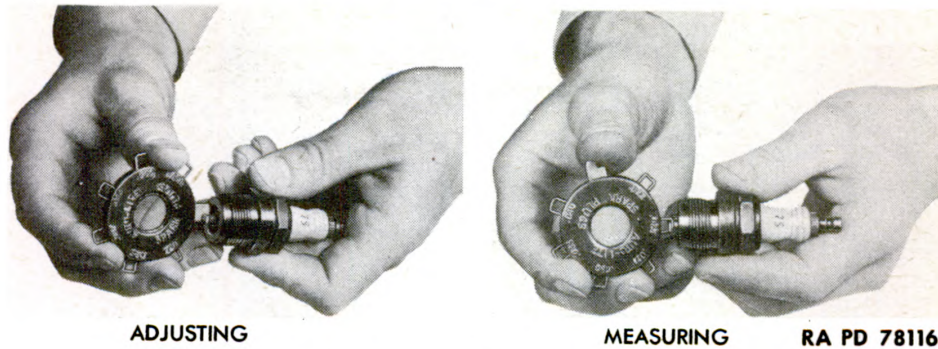

Figure 60 - Spark Plug Gap Adjustment
(4) Place rotor in position over distributor shaft. Distributor shaft is cut so that it is possible to put rotor on shaft in one position only. Check position rotor is to be inserted to avoid breaking.
(5) Place distributor cap on distributor, and secure in position with the two distributor cap hold-down clips.
a. **Description.** The spark plugs (fig. 60) are of the commercial automotive type with electrode gap adjustments made by bending the side electrode. Each plug consists of a metal shell within which is fixed an insulator with a central electrode stem. The metal shell is threaded to screw into the engine cylinder head. The central electrode stem is threaded at the upper part of the insulator to provide means of attaching the high-tension lead from the distributor. Champion No. 1 common, or equivalent spark plugs are used. These plugs are a cold-type, and under no circumstances should they be replaced with hot-type plugs.
(4) Check and adjust spark plug electrode gap using 0.025-inch feeler on gage (fig. 60). Bend outside electrode to obtain correct gap. Never bend center electrode.
(5) Test each spark plug on a spark plug tester to assure proper performance.
e. Removal. Unsnap high-tension lead from the spark plug terminal, and using a spark plug wrench (fig. 60), unscrew spark plug from cylinder head. Lift off spark plug gasket with spark plug.
f. Installation. Place copper gasket over threaded portion of the spark plug shell, and screw spark plug into cylinder using spark plug wrench (fig. 60). Avoid excessive pressure when tightening spark plugs. Attach proper high-tension lead to spark plug terminal.